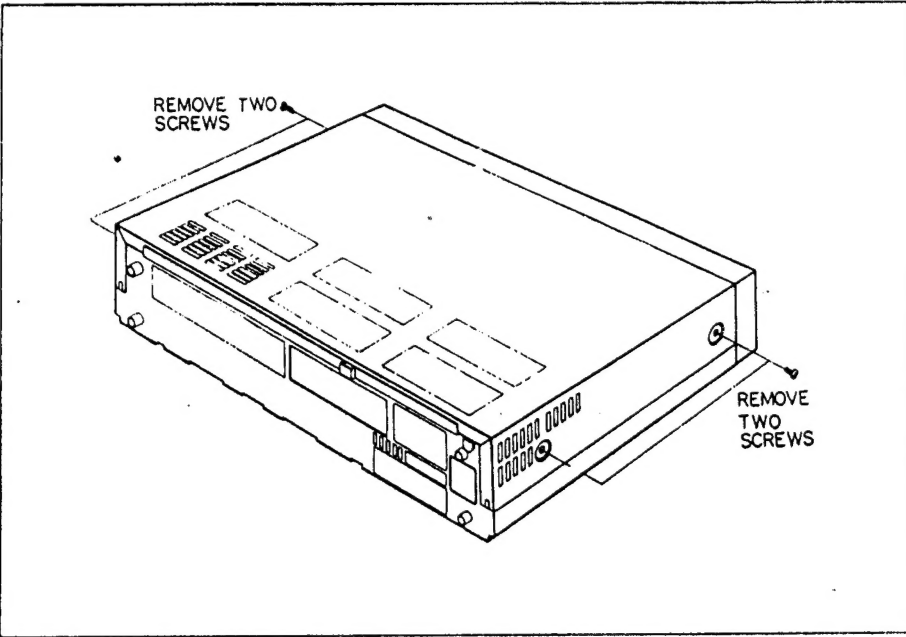

Fig. 1 Top Cabinet Removal
2-1-1. Top Cabinet Removal (Fig. 1)
- 1. Remove the top cabinet and the bottom cover. (See Figs. 1, 2)
- 2. Remove three (3) screws from the top of the front panel.
1. Follow the procedure for removing the Panels. (See Figs. 1 to 3)
2. Remove two (2) screws holding the function switch circuit board.
3. Release three (3) tab on the circuit board.
4. Disconnect one (1) connector (CN701) on this board.
1. Follow the procedure for removing the panels. (See Figs. 1 to 3)
2. Release two (2) tabs cover-Main B from the Main B Board.
3. Disconnect on (4) connector (CN301 CN302 CN304 CN305) on the Main-B board
4. Remove four (4) screws on the Main B PC Board and the hinge from the frame.
2. Remove three (3) screws from the frame.
3. Disconnect one (1) a connector (CN101), on the regulator circuit board.
1. Removal the top panel. (See Fig. 1)
2. Remove two (2) screws holding the timer/input key circuit board.
3. Disconnect two (2) connectors (CN703), (CN203) on the main circuit board, and release one (1) tab on the timer/input key.
2. Disconnect eight (8) connectors between the main circuit board and the other circuit boards.
3. Remove seven (7) screws on the main board.
3. Remove the screw. (A)-Joint screw of housing and plate loading motor.
4. Remove the two screw. (B)-Joint screw of housing and frame.
5. Remove the two screw. (C)-Joint screw of housing and deck.